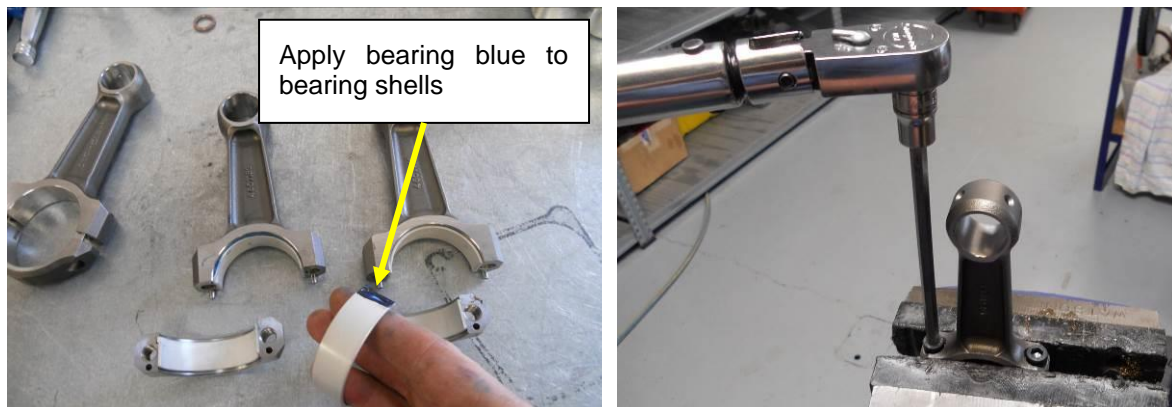

Figure 40 - Conrod assembly
- Place assembly in soft jawed vice (as shown in Figure 40 below)